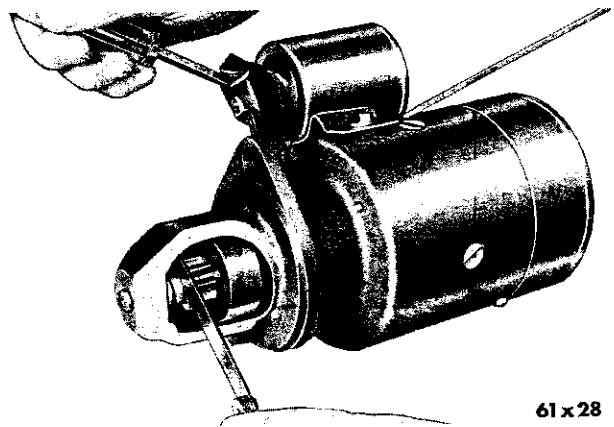

Fig. 18—Measuring Starter Drive Pinion Clearance
NOTE: Place a wedge or screwdriver between the bottom of the solenoid and the starter frame to eliminate all deflection in the solenoid when making the pinion clearance check. (Fig. 18).
(2) Push in on the solenoid plunger link (Fig. 18) (NOT THE FORK LEVER) until the plunger bottoms.
(3) Measure the clearance between the end of the pinion and pin stop with plunger seated and pinion pushed toward the commutator end. The clearance should be $\frac{1}{8}$ inch. Adjust for proper clearance by loosening the solenoid attaching screws and move the solenoid fore and aft as required.
(4) Test the starter operation under a free running test Paragraph 8.